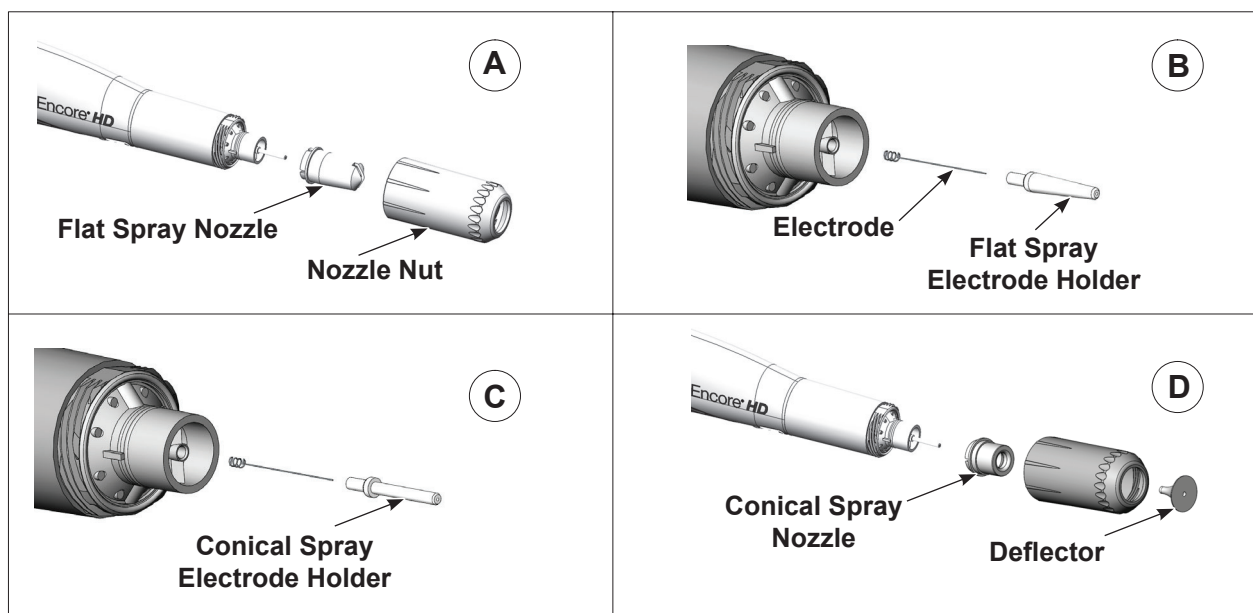

Figure 7 Converting from a Flat Spray Nozzle to a Conical Spray Nozzle
2. Convert the electrode holder and the nozzle. See Figure 7.